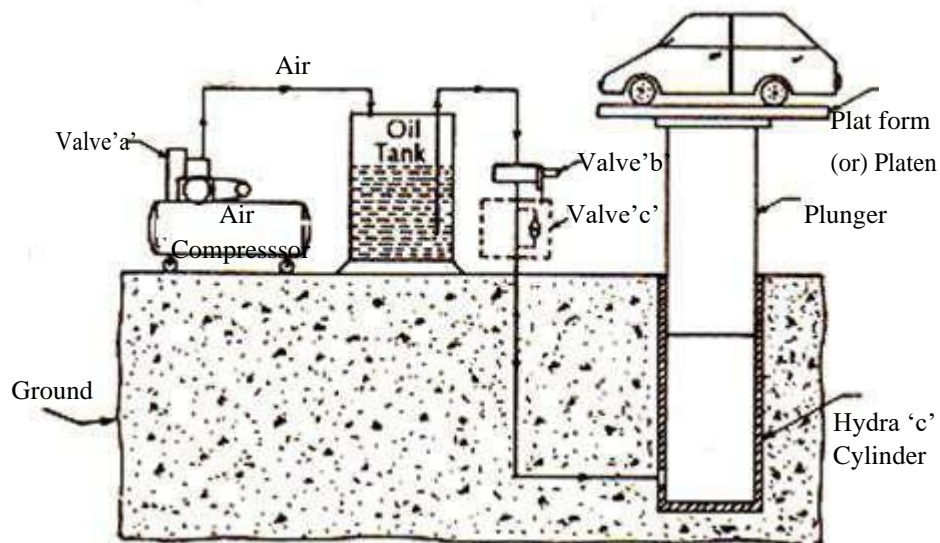

Fig 2.2 Vehical Hoist
- (v) Generally single post hoist as shown in fig 2.2 used in workshop.